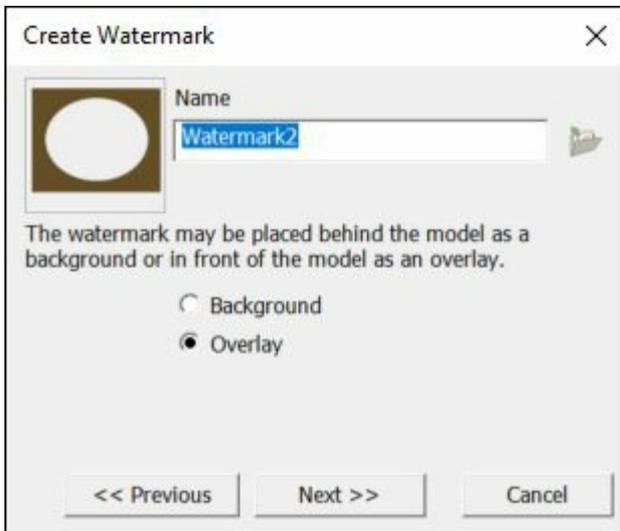

FIGURE 10-9: The Create Watermark series of dialog boxes.
2. **Find the image you want to use as a watermark and then click the Open button to open the first Create Watermark dialog box shown in Figure 10-9.**